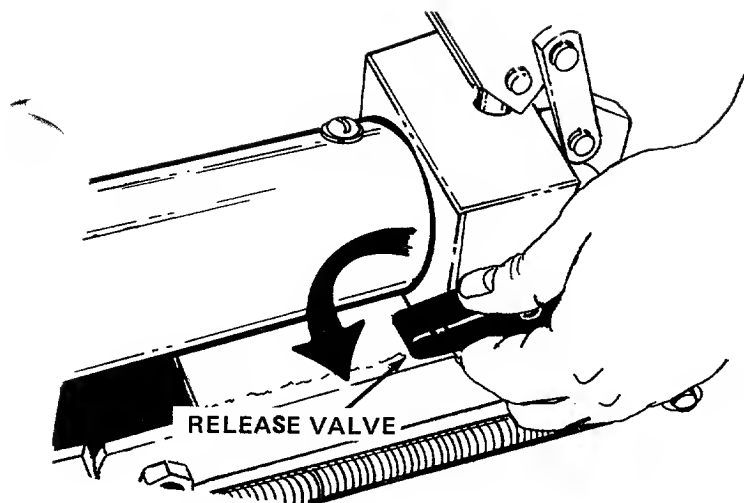

FIGURE 7
4. Push the release valve down and forward to release pressure. Cylinder will return, with the aid of two return springs. See figure 7 and copy of label below.